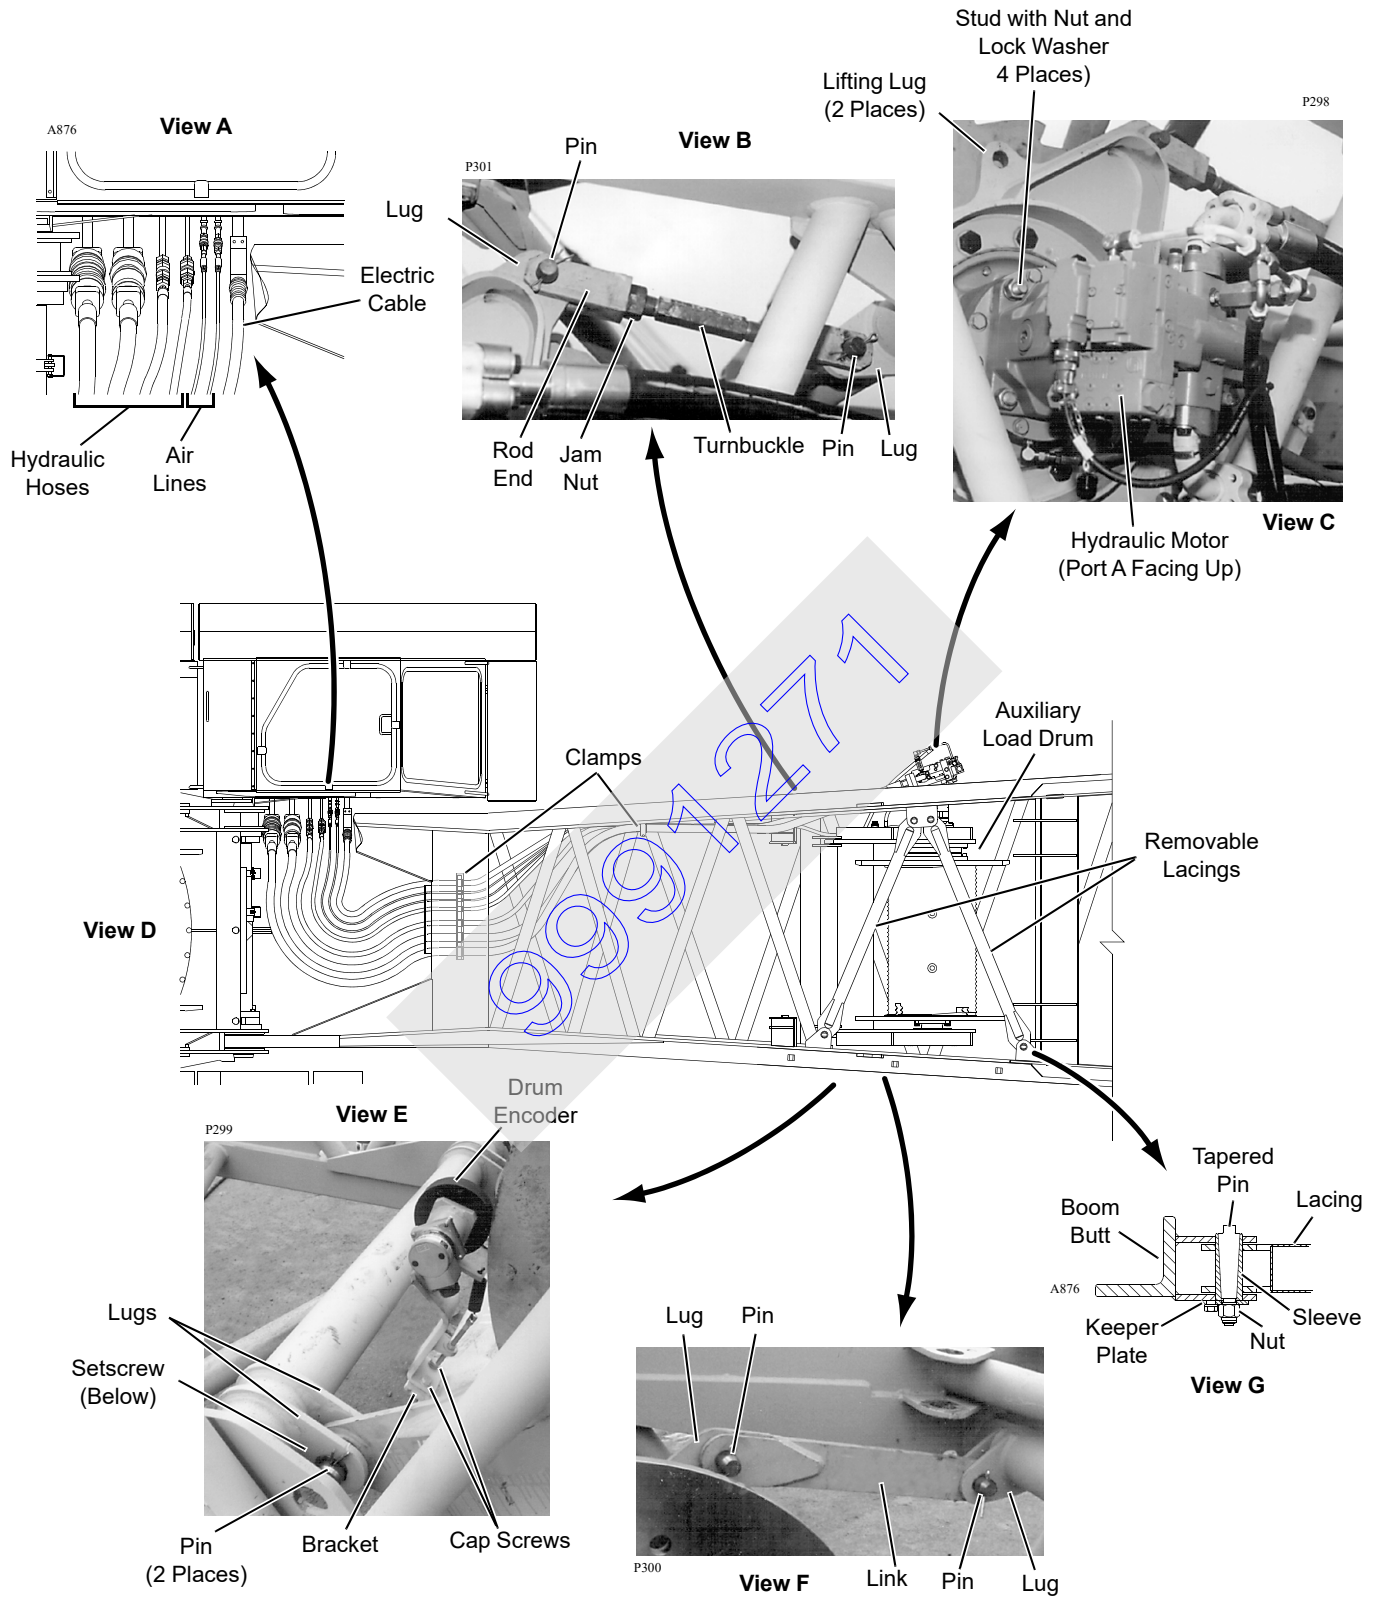

FIGURE 4-28
See Figure 4-28 for the following procedure.
1. Install clamp assemblies (Figure 4-28, View D) on boom butt (two places) for hydraulic hoses, air lines, and electric cable.
3. Connect hydraulic hoses and air lines to couplers at bottom right side of operator's cab (Figure 4-28, View A). Size and configuration of couplers make it impossible to hook up hoses or lines incorrectly.
4. Connect electric cable to plug at bottom right side of operator's cab (Figure 4-28, View A).
If butt is removed with auxiliary load drum installed, hydraulic hoses, air lines, and electric cable must be disconnected from couplers at bottom right side of operator's cab (Figure 4-28, View A).